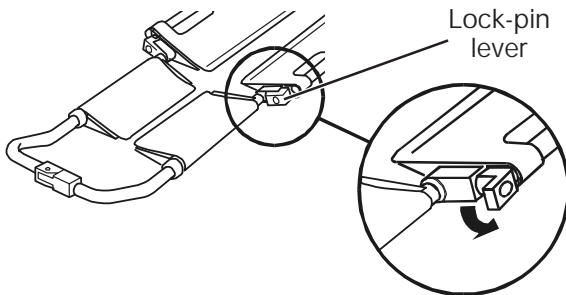

Figure 1 - Raising the Lock-Pin Lever
1. Raise the lock-pin lever on each side of the frame (Figure 1).